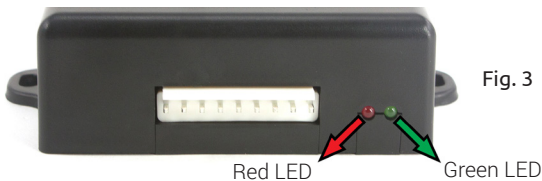

Fig. 3
**Step 6.** Verify the receiver has power. This can be verified by observing if the Red and Green LEDs are illuminated. See Fig. 3.